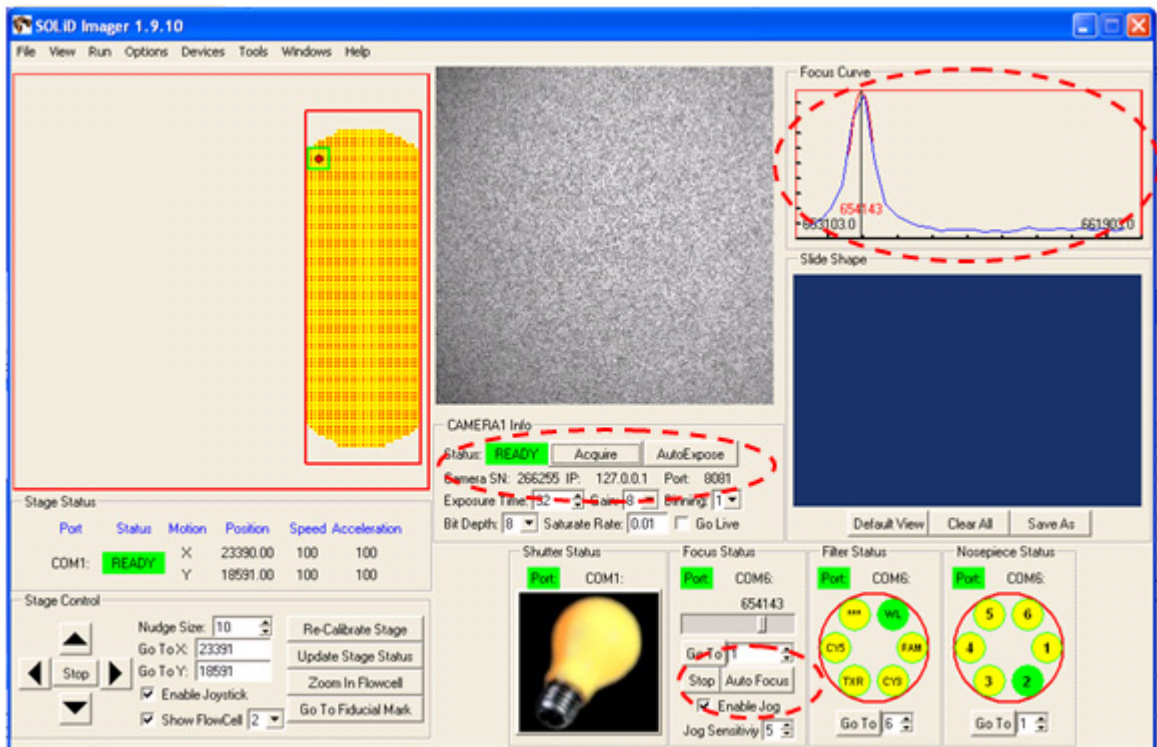

Figure 82 Click **AutoFocus** and **AutoExpose** so that the focus peak falls in the focus range.
2. In the Imager window, click the **AutoFocus** button, then wait about 20 seconds for the Imager to focus on the slide (see Figure 82). The Camera 1 indicator displays BUSY while autofocus is running. When the Camera 1 indicator displays READY, click **AutoExpose**, then wait for the Camera 1 indicator to show READY. Click **AutoFocus** so that the Imager can focus again (this time with correct exposure settings). Note where the focus peak falls in the focus range by looking at the value that displays where the peak is located.